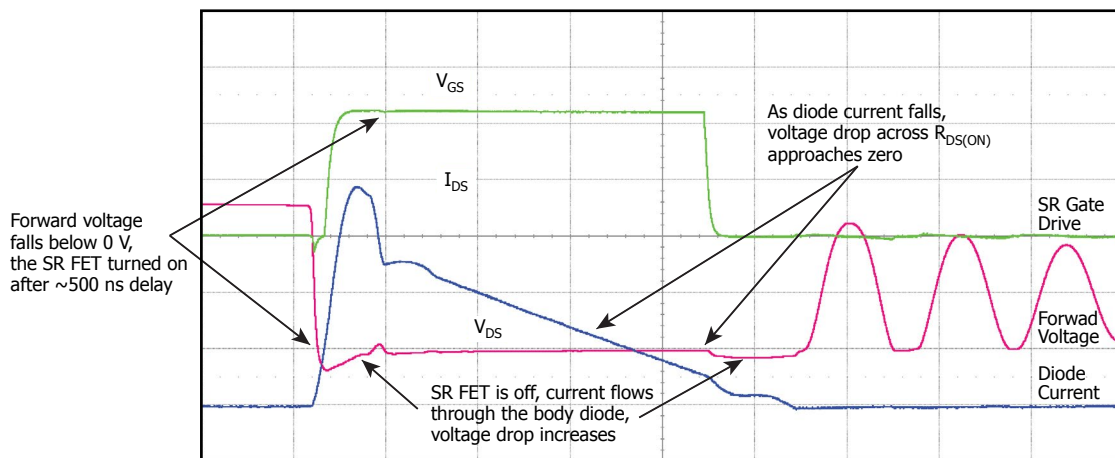

Figure 15. SR FET Turn-ON and Turn-OFF Events During DCM Operation.
InnoSwitch3 features a built-in synchronous rectifier (SR) driver that enables the use of low-cost low voltage MOSFETs for synchronous rectification and increases system efficiency. Since the SR driver is referenced to the output GND, the SR FET is placed in the return line. GND is the typical threshold that ensures the SR FET will turn off ( $V_{SR(TH)}$ ) at the end of the flyback conduction time. There is a slight delay between the commencement of the flyback cycle and the turn-on of the SR FET in order to avoid current shoot through. During SR FET conduction the energy stored in the inductor is transferred to the load, the current will continue to drop until the voltage drops across the  $R_{DS(ON)}$  of the SR FET drops to 0 V, at this point the SYNCHRONOUS RECTIFIER pin will pull the gate low to instantaneously turn off the SR FET. Minimal current will flow through the SR FET body diode during the remainder of the flyback time (see Figure 15). Putting a schottky diode across the SR FET may further increase efficiency by 0.1% – 0.2% depending on the design and SR FET used. In continuous conduction mode (CCM), the SR FET is turned off when a feedback pulse is sent to the primary to demand a switching cycle, providing excellent synchronous operation, free of any cross conduction between the SR FET and primary MOSFET.